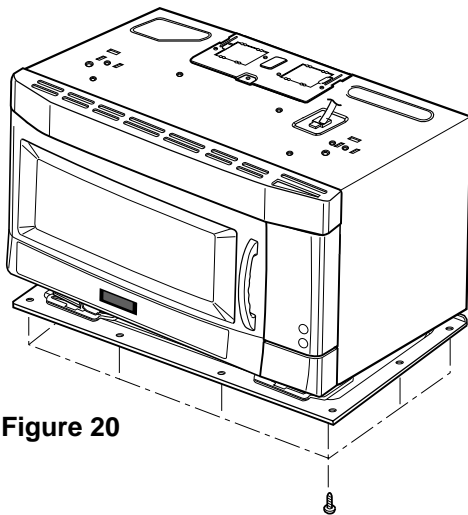
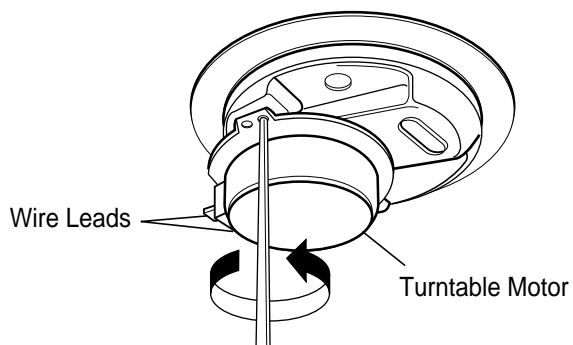

Figure 20
Figure 21
- (3) Remove the base plate by removing 8 screws securing it to the oven cavity. (Figure 20)
- (4) Disconnect the leadwire from the turntable motor terminals.
- (5) Remove the 1 screw securing the turntable motor to the oven cavity ASS'Y. (Figure 21)